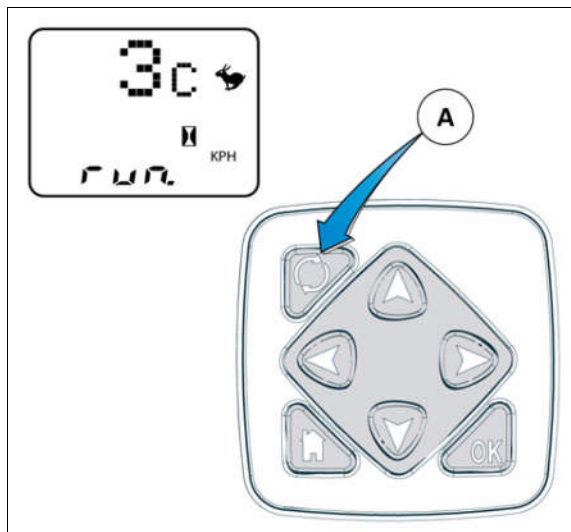

Fig. 2.
6. "run" should appear on the screen fig. 2.
7. Press the display selector switch (A) when the finish line of the course has been passed.
8. Press the display selector switch (A). The constant forward speed (theoretical) measured during calibration is displayed.
9. Press the display selector switch (A) again. The actual constant forward speed (radar) measured during calibration is displayed on tractors fitted with radar.
10. Press the display selector switch (A) one final time to return the instrument panel to normal operating mode.